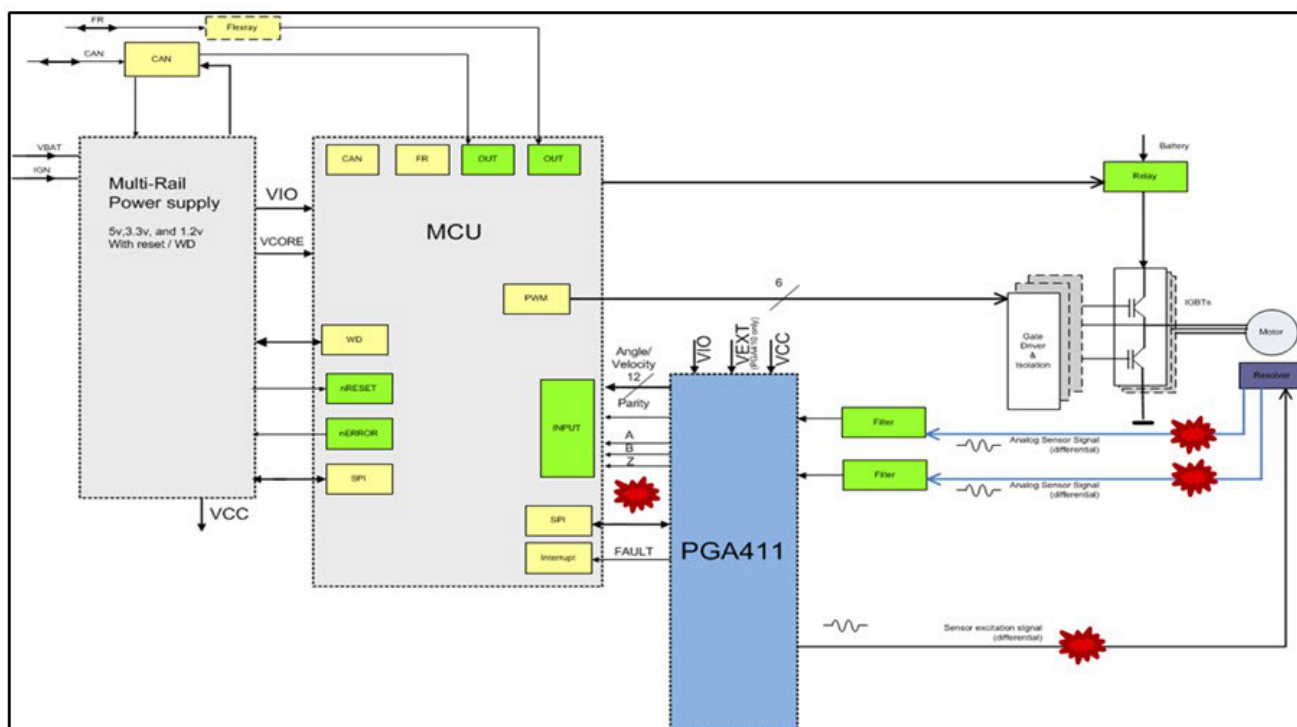

Figure 4. Important Faults Related to the Resolver and RDC
- **Integrated flexible diagnostics.** Fault detection and diagnostics play a vital role in defining motor-drive safety. The PGA411-Q1 has integrated features for fault detection and provides extensive diagnostic coverage compared to existing discrete solutions on the market. Apart from that, existing solutions today use a fixed threshold for the diagnostics. These fixed thresholds typically vary or shift from system to system. The PGA411-Q1 enables you to fine-tune sensor input and output line faults within 4 bits of resolution. The most important faults are related to disconnection of the resolver (open, short or miswiring to ground for the resolver's excitation signals or the sine or cosine signals). These appear as errors over the serial interface of the RDC to the host processor. In Figure 4, these potential faults are highlighted in red. We at TI fully tested the reference design according to these faults, and the PGA411-Q1 successfully identified and reported each fault through the serial interface.